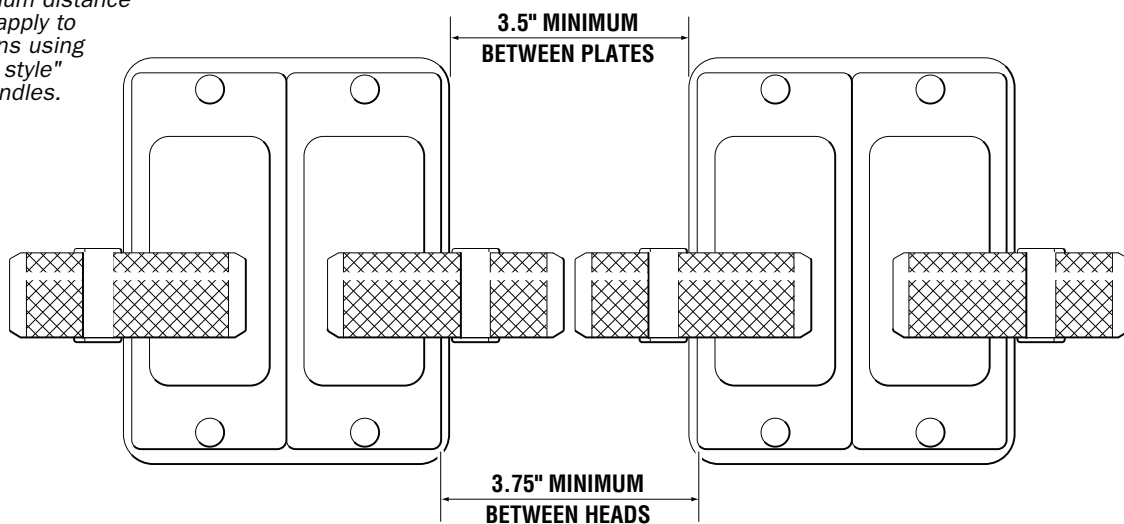

Figure 1. Mounting "T" Handle Controls Side by Side.
The design of the new Engine Control "T" handle requires a minimum distance between control heads to provide adequate handle clearance when two sets of controls are mounted side by side. See Figure 1.
- 2 Using the template provided in the appendix, mark and cut a hole for the sender. Page 29 shows the proper templates for the single head and side by side sender mounting options. Refer to Figure 1 for minimum distance required when mounting two sets of controls side by side.